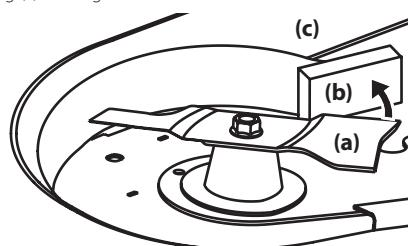

Figure 40
- Wrap a rag around one end of the blade (a) and grasp it to prevent it from turning, or secure the blade (a) by placing a block of wood (b) between the blade (a) and the deck housing (c). See Figure 40.